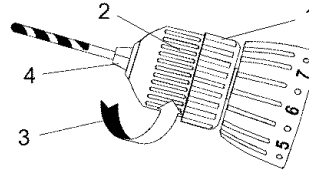

Fig. 7
1. To open the keyless drill chuck, grasp and hold the chuck collar (1) with one hand (see Fig. 7). Rotate the chuck body (2) with the other hand in a counter clockwise direction (3) until the chuck jaws (4) open wide enough to accept the bit.